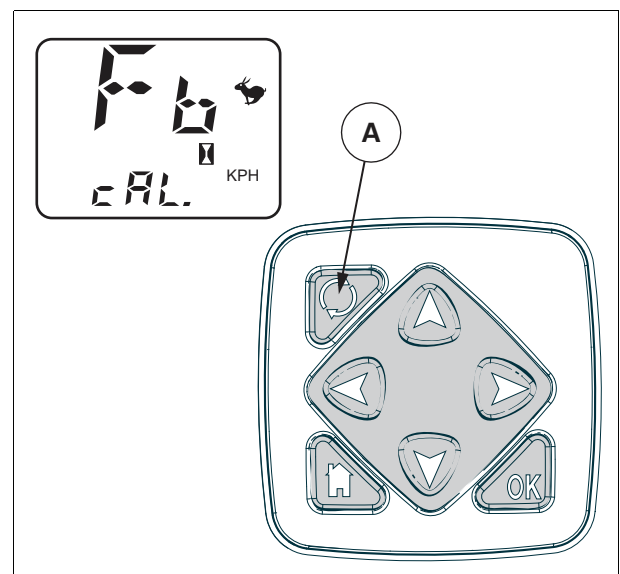

Fig. 11.
3. "CAL" should appear on the screen fig. 11.